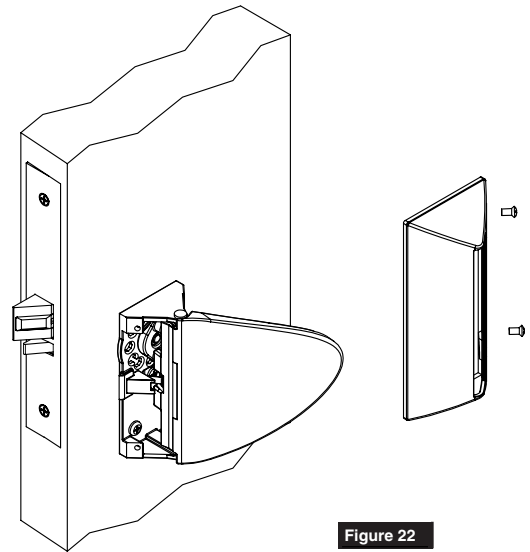

Figure 22
- Install #8-32 x 5/16" cover screws. (Figure 22)